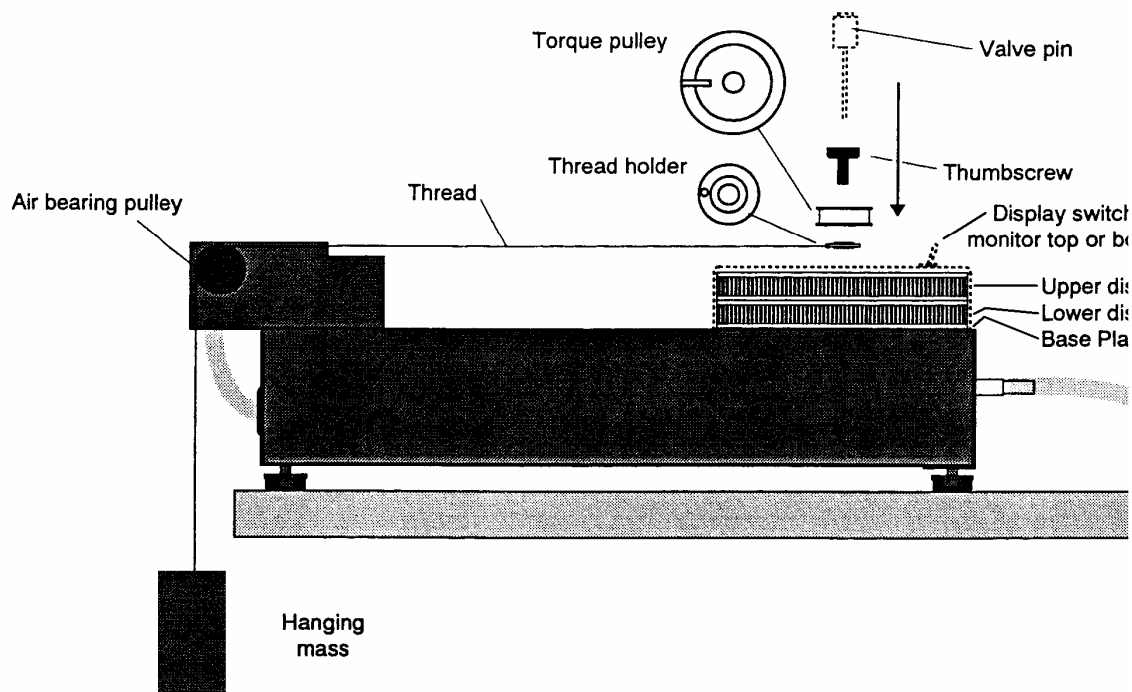
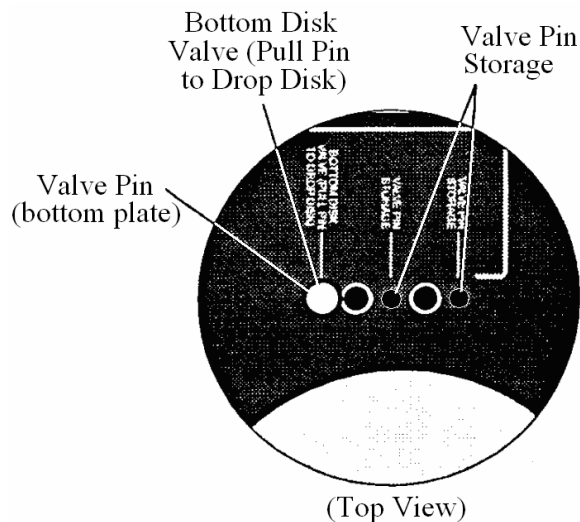

Fig. 3. Side view of rotational dynamics apparatus
Fig. 4. View of the pin storage area.
2. Arrange the apparatus (see Fig. 3 below) so the air-bearing pulley extends over the edge of your lab table. Check with your TA if you are unsure.
1. The two disks can spin independently or together, or the upper disk can spin while the lower disk does not (see Fig. 3). These options are controlled using the two valve pins that are provided with the unit. When not in use, these pins can be stored in the valve pin storage holes on the top of the base (see Fig. 4). Start with the pins in the storage holes.
4. Referring to Fig. 3, tie one end of the thread to the hole in the thread holder. Place the thread holder in the recess of the small torque pulley, with the thread passing through the slot in the pulley. Then use the thumbscrew to attach the pulley to the top of the rotating disk, with the flat side of the pulley facing up, so the thread holder is underneath the pulley. Tighten the thumbscrew so the pulley is secure. *Make sure that the string is not caught under the pulley!* Weigh the “20 g” mass.